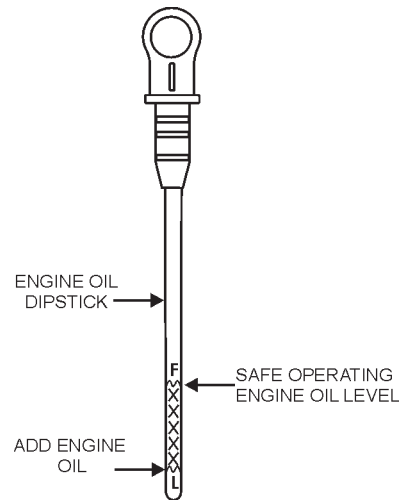

Figure 8. Engine Oil Dipstick
3. Check the oil level shown on the dipstick (Figure 8).